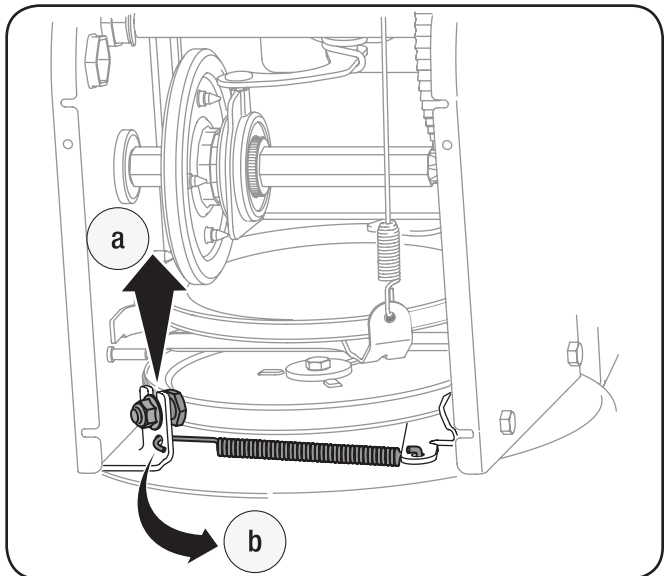
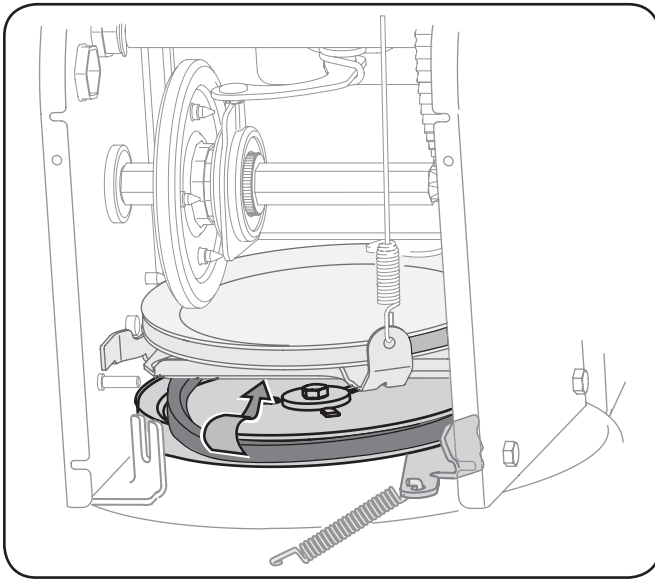

Figure 7-4
Figure 7-5
5. Remove the belt as follows. See Fig. 7-4 and Fig. 7-5.
6. Remove the belt from around the auger pulley, and slip the belt between the support bracket and the auger pulley. See Fig. 7-5.